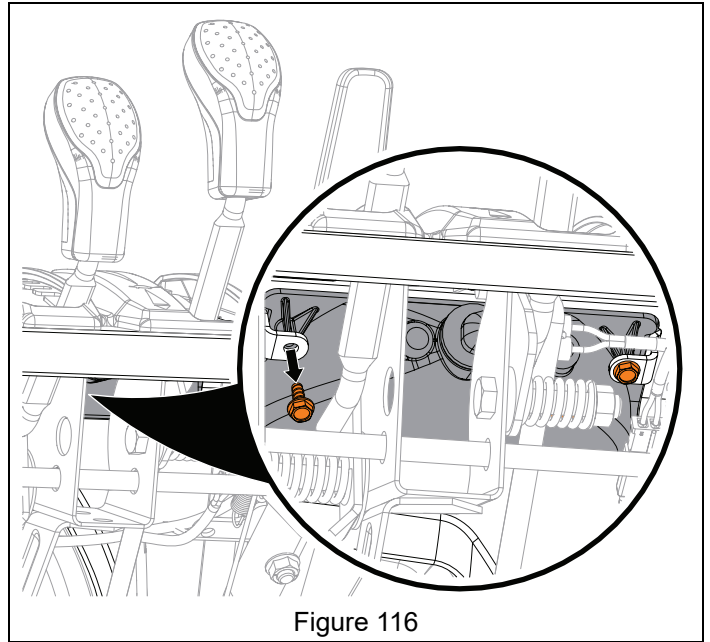

Figure 116
3. Remove hardware securing headlight to control panel. See Figure 116.